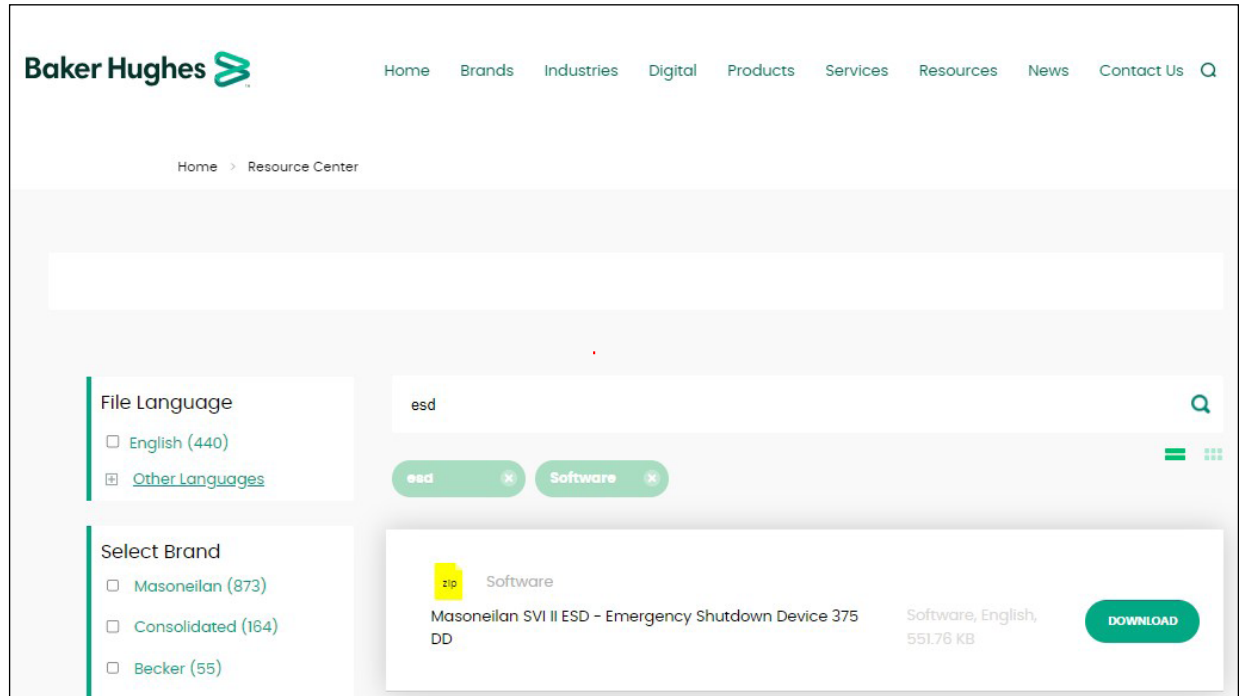

Figure 1 - Download Search for ESD
- a. Entering *ESD* as the search term at the search screen (*Figure 1*), and clicking the magnifying glass search icon.